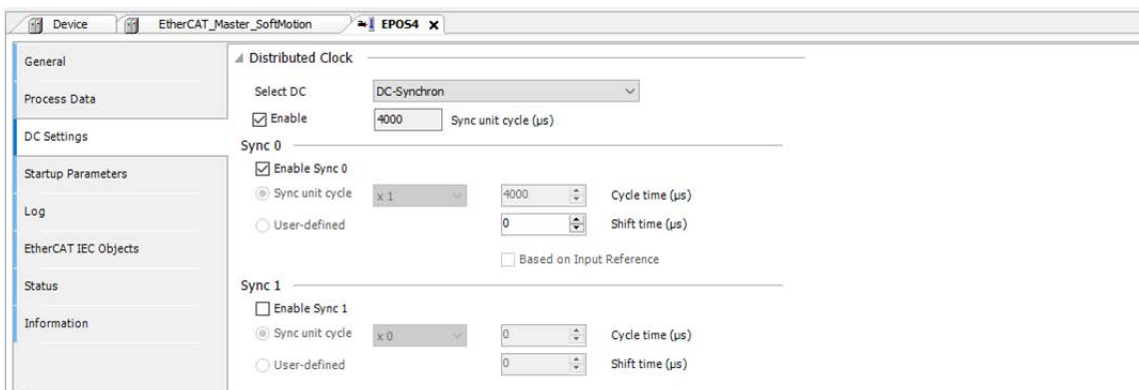

Figure 6-156 EtherCAT integration CODESYS | Open DC Settings tab
- SYNC cycle time (refer to →Figure 6-156)